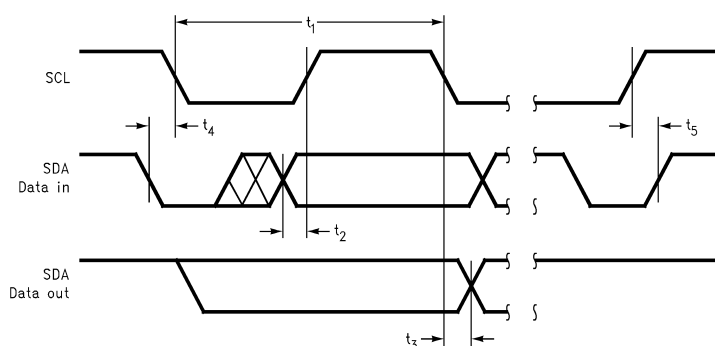

Figure 32. I²C Timing Diagram
- (1) "Absolute Maximum Ratings" indicate limits beyond which damage to the device may occur, including inoperability and degradation of device reliability and/or performance. Functional operation of the device and/or non-degradation at the *Absolute Maximum Ratings* or other conditions beyond those indicated in the *Recommended Operating Conditions* is not implied. The *Recommended Operating Conditions* indicate conditions at which the device is functional and the device should not be operated beyond such conditions. All voltages are measured with respect to the ground pin, unless otherwise specified.
- (2) The *Electrical Characteristics* tables list ensured specifications under the listed *Recommended Operating Conditions* except as otherwise modified or specified by the *Electrical Characteristics Conditions* and/or Notes. Typical specifications are estimations only and are not ensured.
- (3) Human body model, applicable std. JESD22-A114C.
- (4) Datasheet min/max specification limits are ensured by test or statistical analysis.
- (5) Refer to the I²C timing diagram, Figure 32.
- (3) Typical values represent most likely parametric norms at $T_A = +25^\circ C$, and at the *Recommended Operation Conditions* at the time of product characterization and are not ensured.
The LM49200 is controlled through an I²C compatible serial interface that consists of a serial data line (SDA) and a serial clock (SCL). The clock line is uni-directional. The data line is bi-directional (open drain). The LM49200 and the master can communicate at clock rates up to 400kHz. Figure 32 shows the I²C interface timing diagram. Data on the SDA line must be stable during the HIGH period of SCL. The LM49200 is a transmit/receive slave-only device, reliant upon the master to generate the SCL signal. Each transmission sequence is framed by a START condition and a STOP condition (Figure 33). Each data word, device address and data, transmitted over the bus is 8 bits long and is always followed by an acknowledge pulse (Figure 34). The LM49200 device address is 11111000.